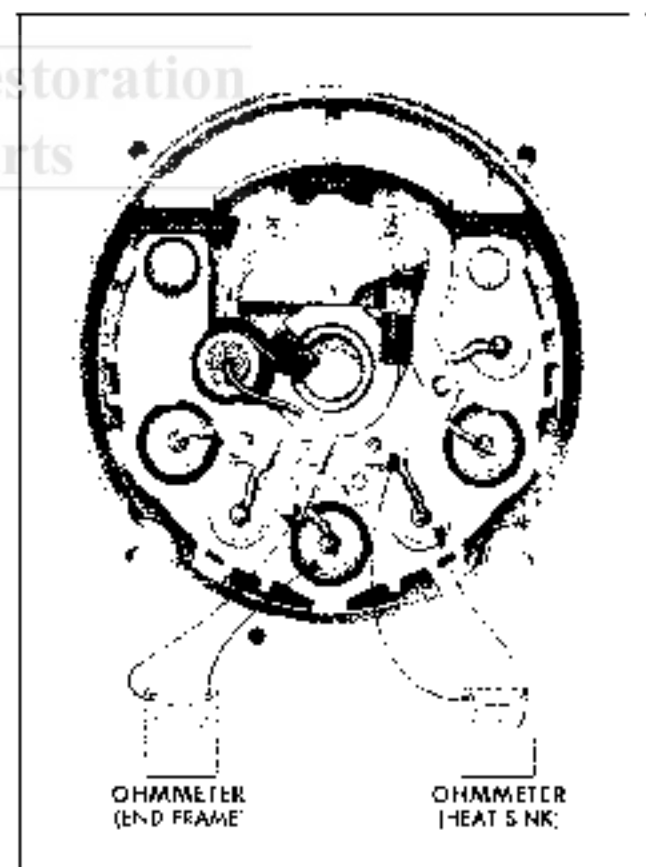

Fig. 6E-16 Checking Diodes
1. With stator disconnected, check a diode in heat sink by connecting one of ohmmeter leads to heat sink, and other ohmmeter lead to diode lead and note reading (Fig. 6E-16).
1. To check a diode mounted in end frame, connect one of ohmmeter leads to end frame and other ohmmeter lead to diode lead and note reading (Fig. 6E-16).